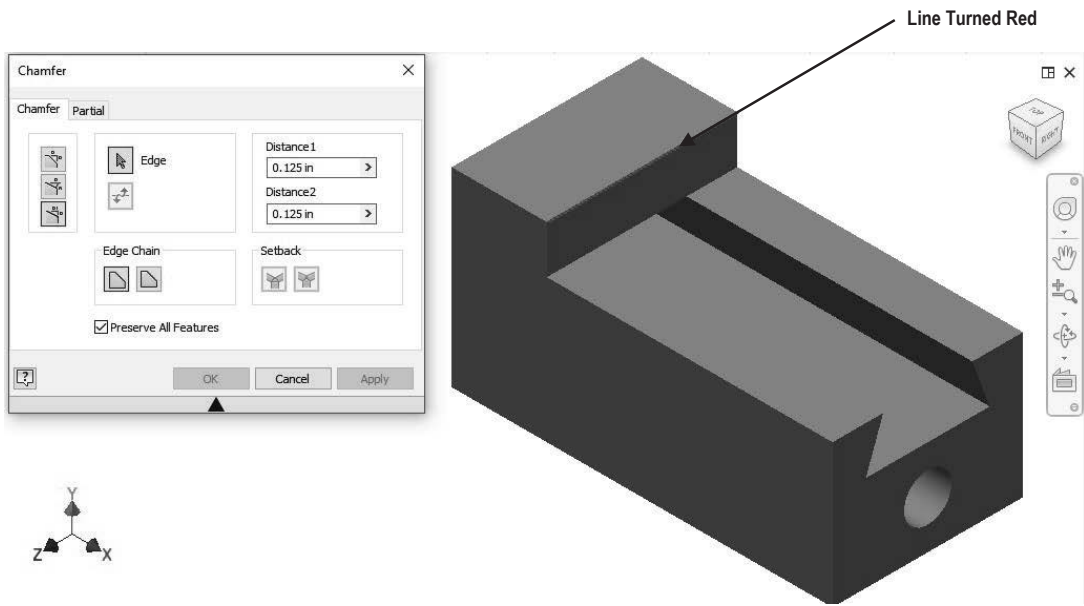

Figure 4
6. Move the cursor to the front upper corner. A red line will appear as shown in Figure 4.